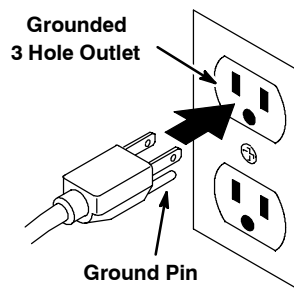

FIG. 19
4. Connect the charger's AC power supply cord to a properly grounded receptacle (Figure 19).